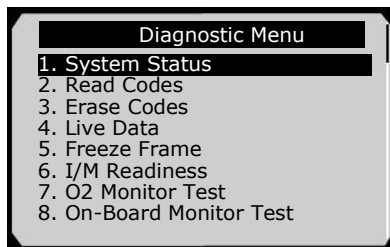

Figure 6.3
- 7) View a summary of system status (MIL status, DTC counts, Monitor status) on screen (Figure 6.1). Press **ESC** button for **Diagnostic Menu** (Figure 6.3) to come up.
- 1) Use **UP/DOWN** scroll button to select **Read Codes** from **Diagnostic Menu** and press the **OK** button (Figure 6.3).
- 1) To view live data, use the **UP/DOWN** scroll button to select **Live Data** from **Diagnostic Menu** and press the **OK** button (Figure 6.3).